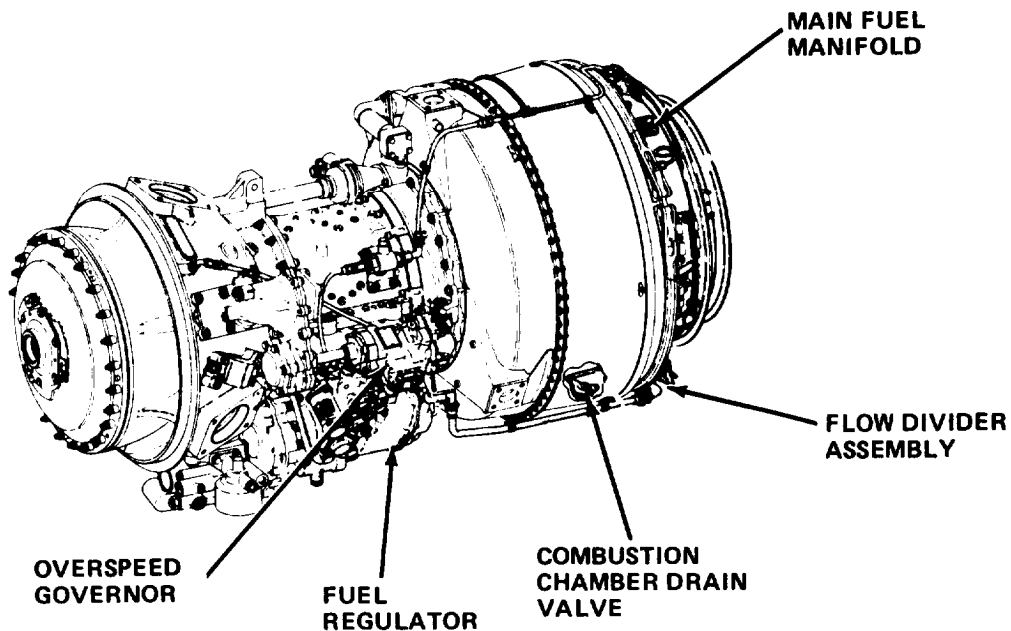

Figure 1-15. Main Fuel System (T53-L-13B/703 Engines)
**1-19. Main Fuel System (T53-L-13B/703 Engines).** Delivers fuel to combustion chamber. Minimum fuel pressure in fuel control needed to actuate main fuel outlet foot valve is obtained at 8 to 13 percent N1 speed. Metered fuel from fuel control flows through main fuel manifold. It is discharged through 22 fuel nozzles into combustion chamber where it is ignited by burning starting fuel. (See figure 1-15.)